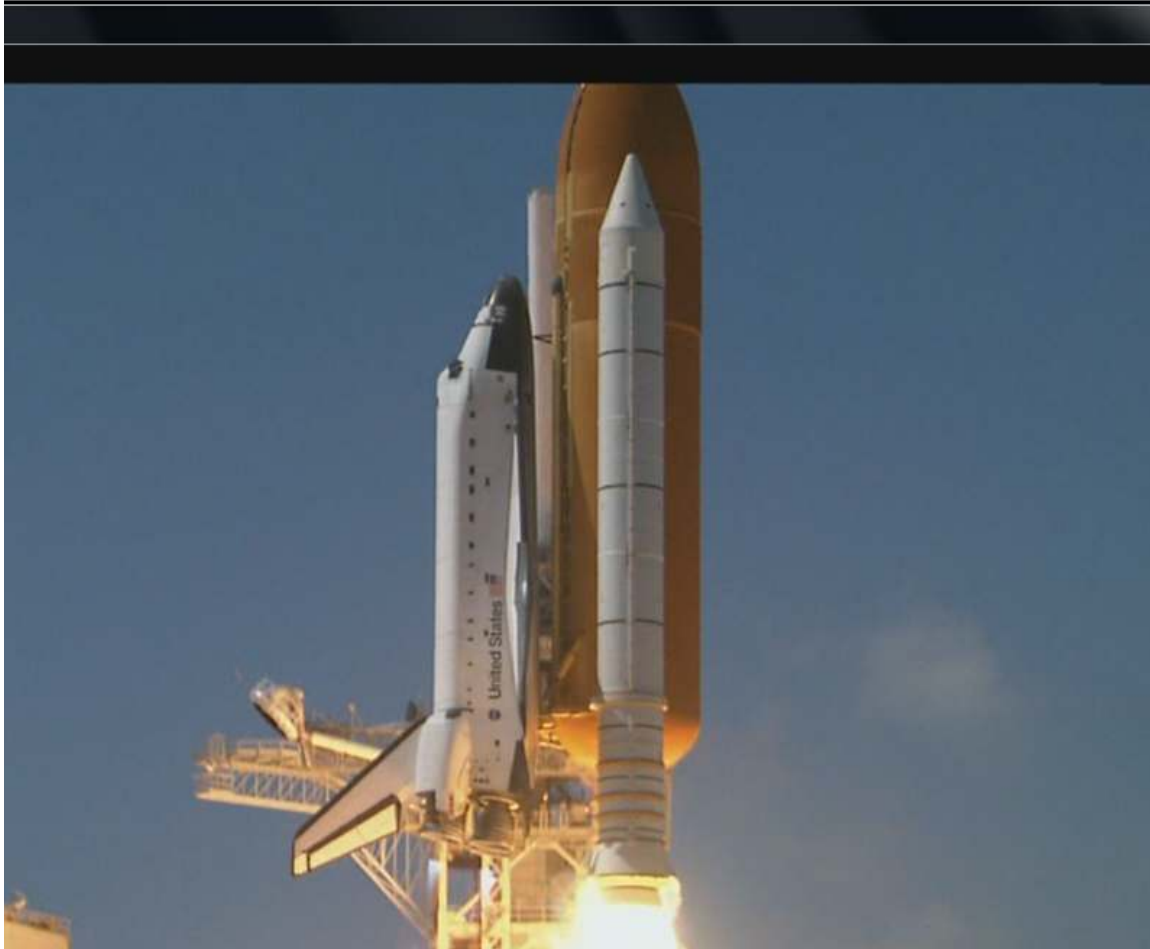

Figure 4.4 Active Display Window
- Once desired settings is selected or entered click the SEND button. An Active Movie Window displaying the data pops up **Fig 4.4**